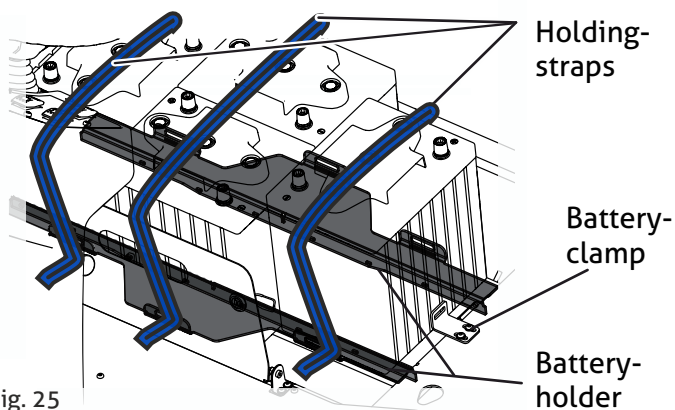

Fig. 25
- Put batteries into the battery holder. (Fig. 25)
- Adjust the battery clamp (Fig. 25)
- The terminal clamp (red cable) is to be attached to the plus terminal (+) of the battery (Fig.25).